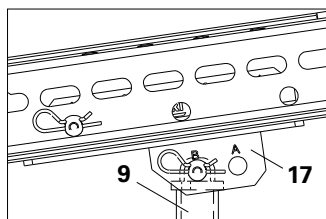

Fig. A6.03a
- Any desired inclination and frame size is possible by plugging holes "A or B" for the Compression Brace Head and holes 1, 2, 3 or 4 in the beam for Connector MP/SRU. (Fig. A6.03a + A6.03b)